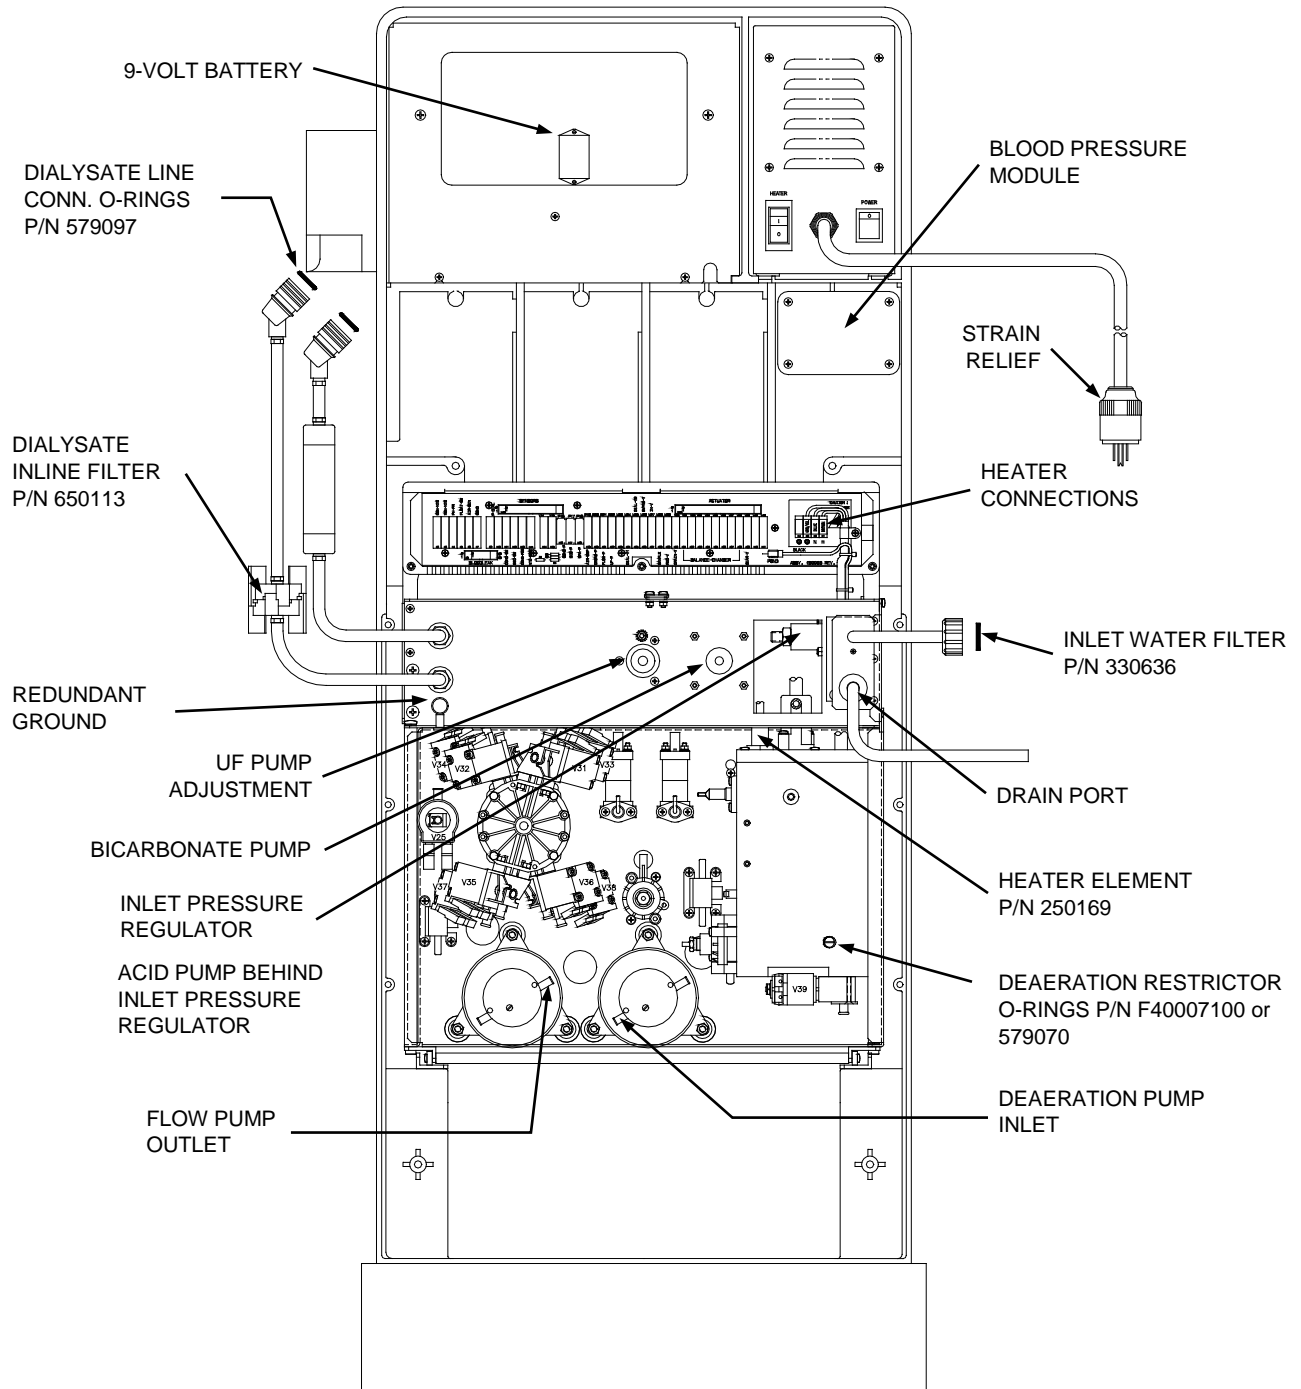

Figure 3. 2008K Hemodialysis System, Rear View.
1. Inlet Water Filter in the inlet connector of the water supply (See Figure 3, pg. 8).
3. Clean the Dialysate Inline filter (See Figure 3, pg. 8).
4. Replace the O-rings in the Dialysate Line Connectors (See Figure 3, pg. 8).
1. Remove power from the machine then check and tighten the 8-pin heater connections next to the distribution board (See Figure 3, pg. 8). Check heater block AC connections for signs of arcing or melting.
5. At the strain relief, locate the black, white and green wires from the power cord (inside the power supply chassis). Follow the black and white wires to the main power switch. Attached to the main power switch are four (4) wires (2 black and 2 white). Look for loose connections, cracked insulation, and signs of overheating, such as discolored or melted insulation. Replace wires with power supply wire kit (part number 190411).
7. With a digital multimeter, measure the resistance between the round (ground) pin on the power plug and the redundant ground terminal on the machine (See Figure 3, pg. 8). Verify that the resistance is less than 0.2 ohm. If the value is above 0.2 ohm, measure the internal resistance of your meter by shorting the leads together, then subtract this value from the resistance measured between the power plug ground pin and the redundant ground terminal on the machine to obtain the true ground resistance.